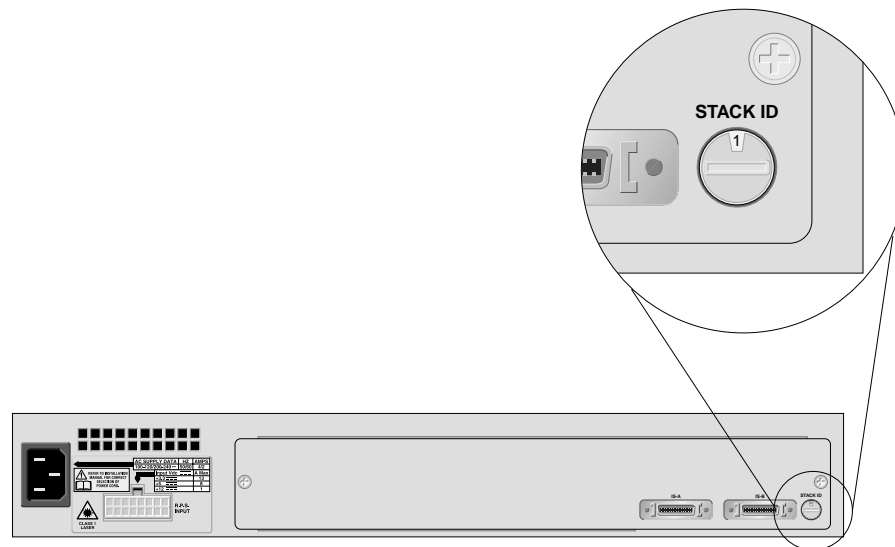

Figure 3-7 Stack ID Switch
7. Set the Stack ID switch on the master switch to 1. Refer to Figure 3-7.
7. Set the Stack ID switch on the master switch to 1. Refer to Figure 3-7 for the location of the Stack ID switch.
12. Set the Stack ID switch on the master switch to 1. Refer to Figure 3-7 for the location of the Stack ID switch.